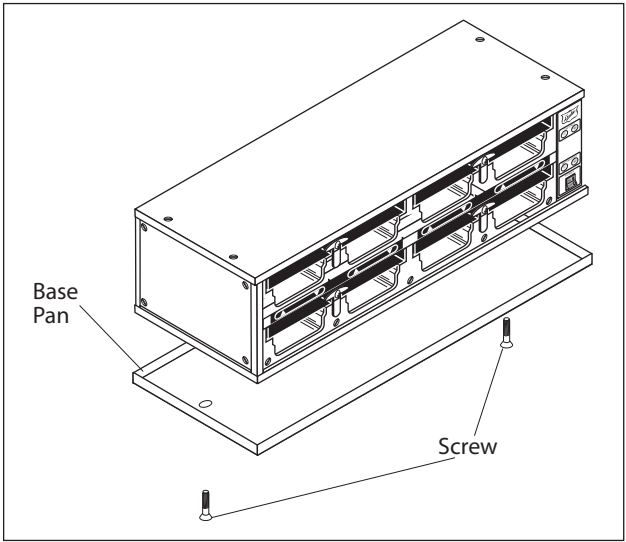

Figure 7. Base Removal on Warmer
1. Remove the base pan from all Warmers that are to be stacked, except for the bottom Warmer by removing the two screws on the bottom of the Warmer. See Figure 7.